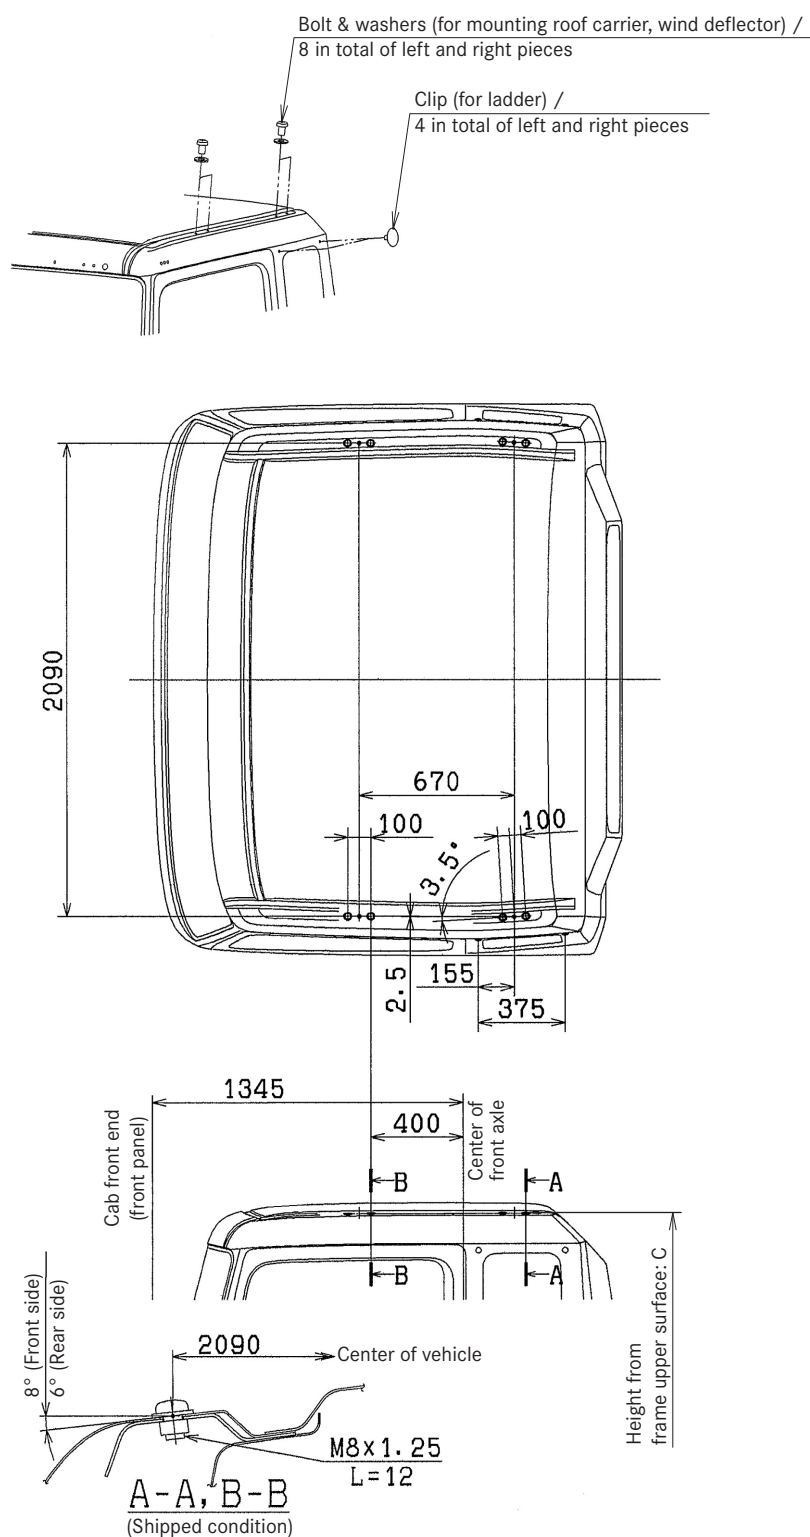

Fig. 1
- When attaching externally mounted parts such as roof deck or drag foiler onto the roof, use the exclusive mounting holes provided on the roof. (See Figs. 1 and 2.)
To attach an externally mounted part, remove the clips from the nuts and fit the part with M8 bolts. (See Figs. 1 and 2.)